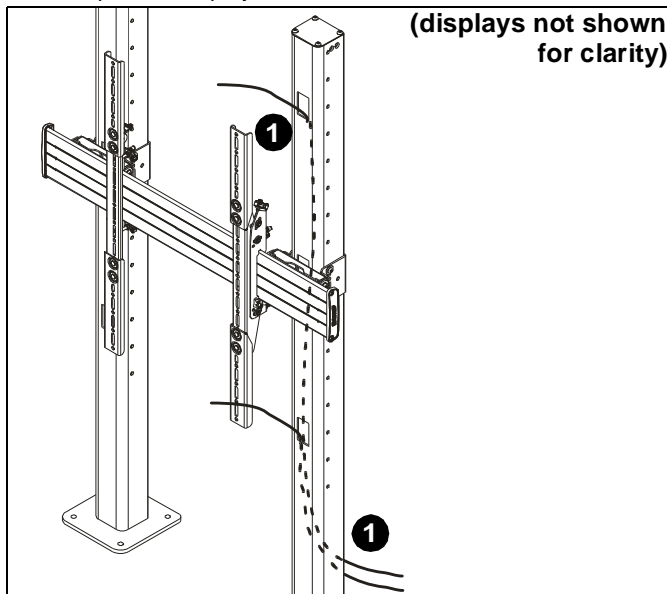

Figure 14
1. Route cables from displays through nearest holes on front of columns and out through back cable management hole. (See Figure 14)